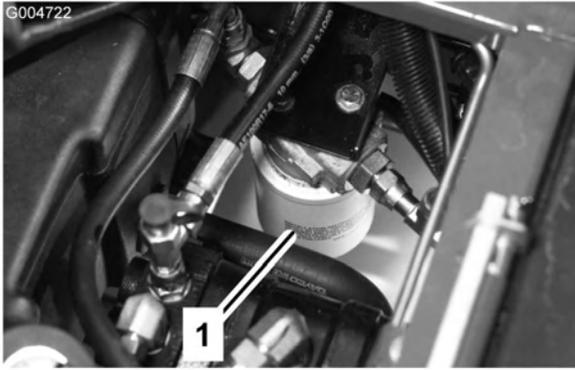

Figure 71
2. Clean the area around the filter mounting area. Place a drain pan under the filter and remove the filter (Figure 71).